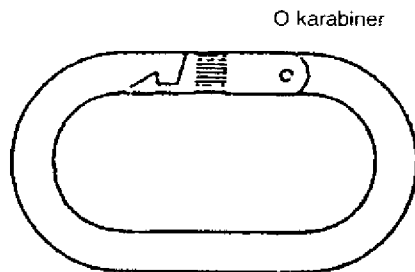

Fig. 3-67
(1) Types (Fig. 3-67, 68, 69, 70)
(2) Shapes, Materials